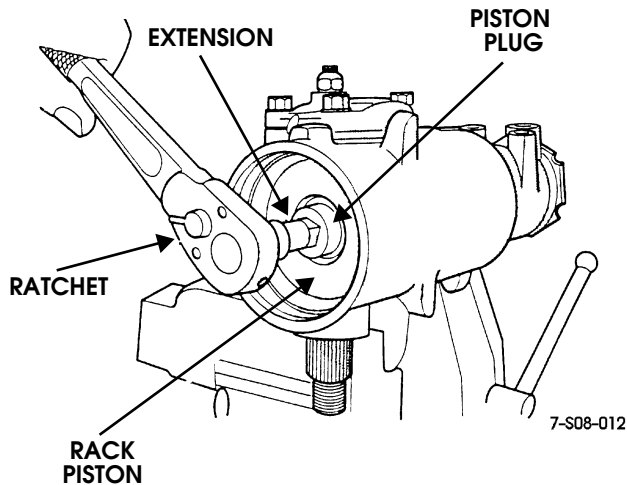

Figure 8-39: Rack Piston Plug Removal
2. Remove rack piston plug (Figure 8-39). Use a ratchet and socket extension to remove the plug as shown.